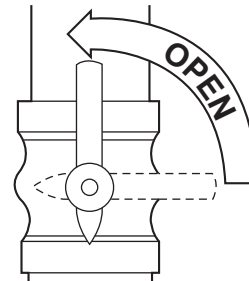

Fig. 15 - Open Valve
9. Open the external manual gas valve. See Fig. 15.